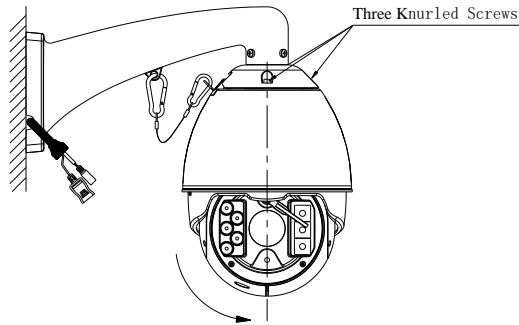

Fig 4
Step 4: connect the integrated line on camera to the socket on the top of camera, hold the camera in both hand after confirmation, follow the arrow direction and rotate the camera to vertical angle, screw down the knurled screw by using die nut(as Fig 4)